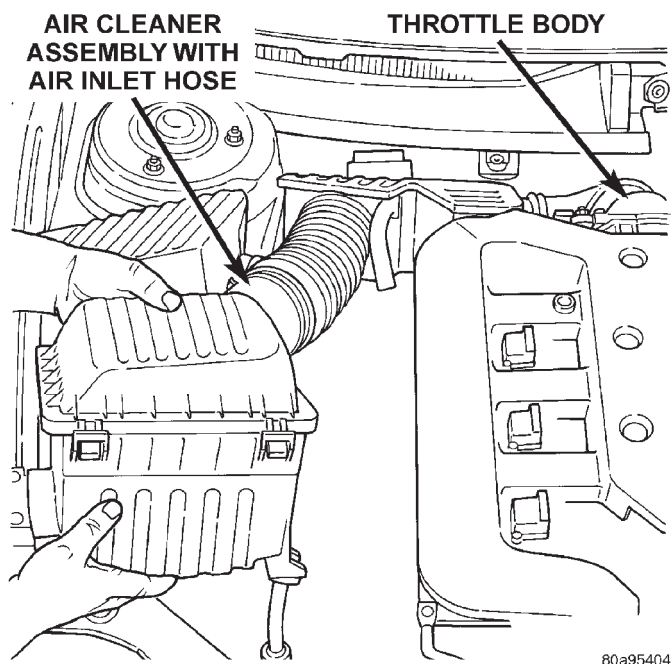

Fig. 5 Air Cleaner With Inlet Hose
(7) Remove air cleaner assembly with air inlet hose (Fig. 5).